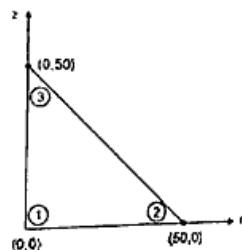

Fig. 14(b)
- (b) For the axisymmetric element shown in the Fig. 14(b), determine the stiffness matrix. Let $E = 2.1 \times 10^5 \text{ N/mm}^2$ and $\mu = 0.25$. The co ordinates are in mm.